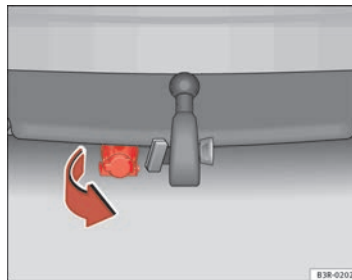

Fig. 158 Rear bumper: Pulling down the power socket
- To plug in the electrical connection for the trailer, pull down the socket below the bumper ⇒ page 204, fig. 158.